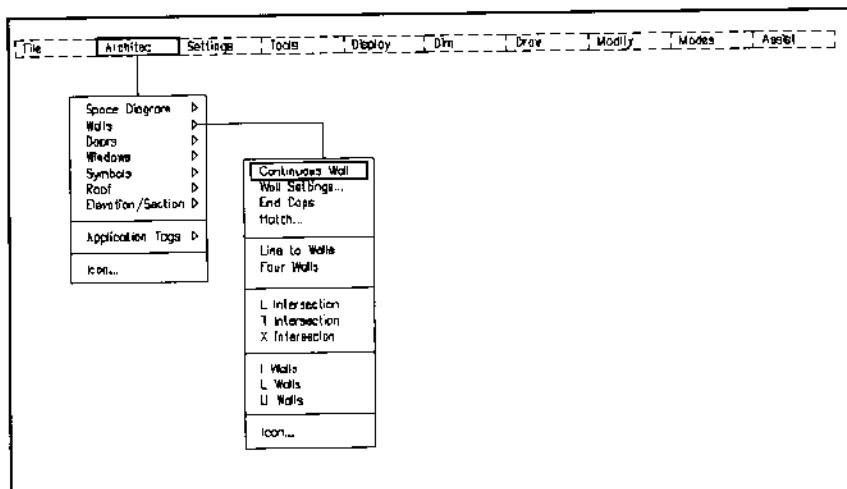
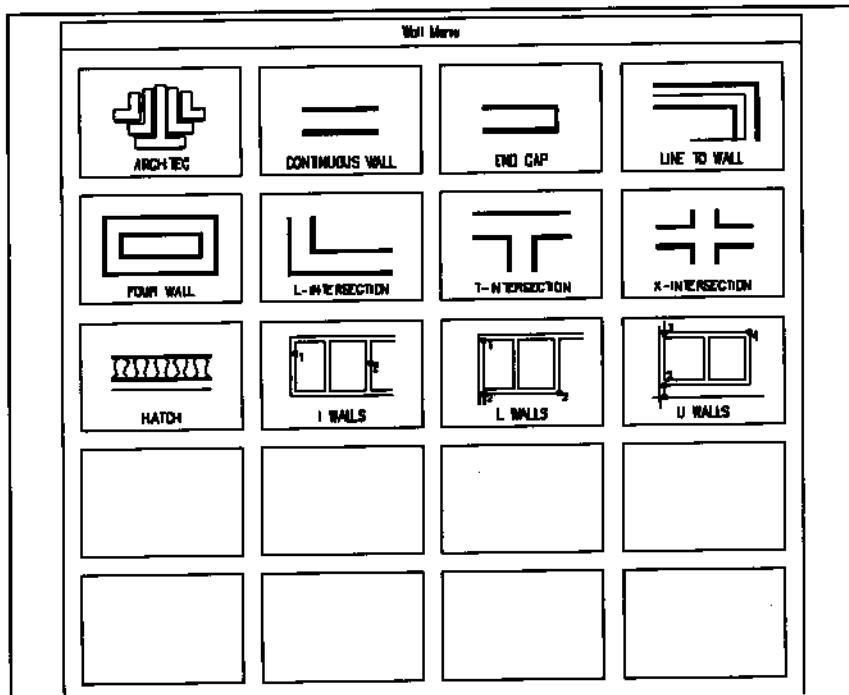

Figure 16.
Figure 20.
3. Pick the Walls cascading submenu under the Architec pull-down menu as shown in Figure 16 and select the Continuous Wall command to draw double line walls. Press Return to accept the AutoPT default placing the wall start point at a location relative to a base point.
1. Zoom into the Service area and use the T intersection from the Walls submenu as previously shown in Figure 16 or the Wall Menu icon as shown in Figure 20 to clean up intersections at the start and endpoints of the continuous wall.